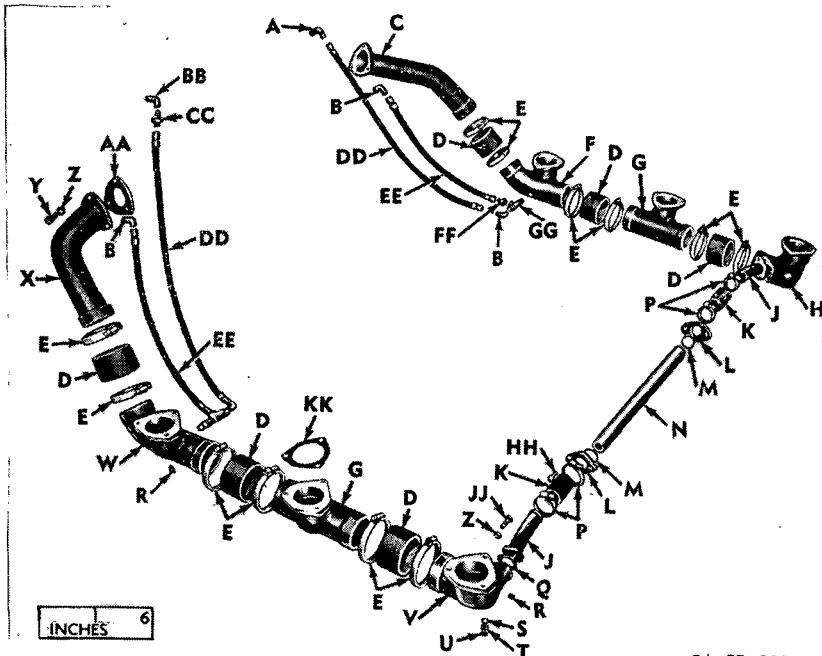

Figure 106. Intake manifold, balance tube and aspirators—exploded view.
- c.* Install carburetor-elbow-to-aspirator line (EE, fig. 106). Place the carburetors on the elbow studs, using carburetor-to-elbow gasket (K) and carburetor mounting spacer (L, fig. 85). Secure with plain washers (F), plain nuts (G), and jam nuts (H). Install the carburetor-air-inlet-to-aspirator lines (DD, fig. 106).
(fig. 106)